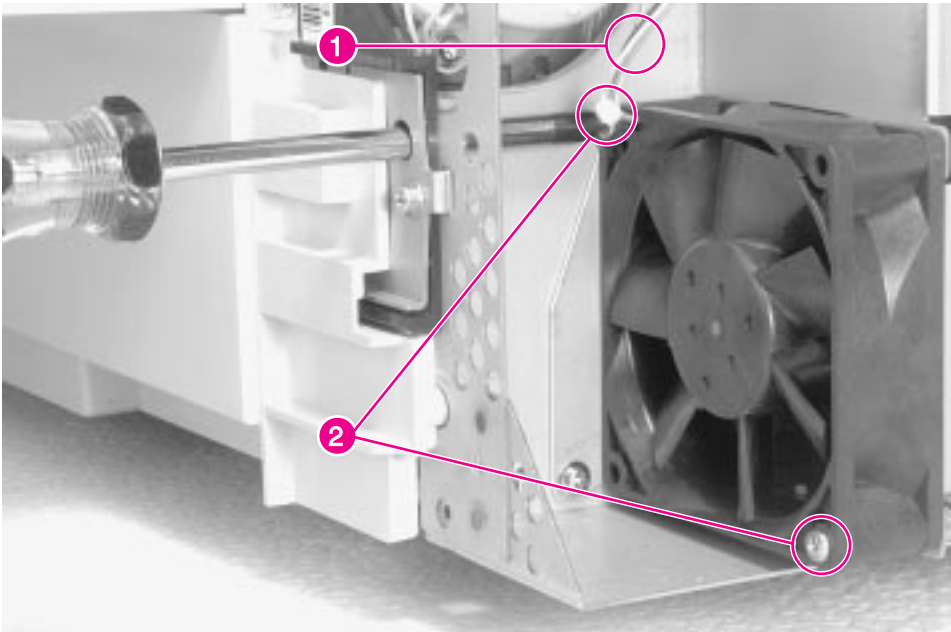

Figure 6-20 Fan 2, LVPS
- 2 Remove the fan cable from the DC Controller PCA (figure 6-20, callout 1).
- 3 Remove 2 screws (figure 6-20, callout 2).